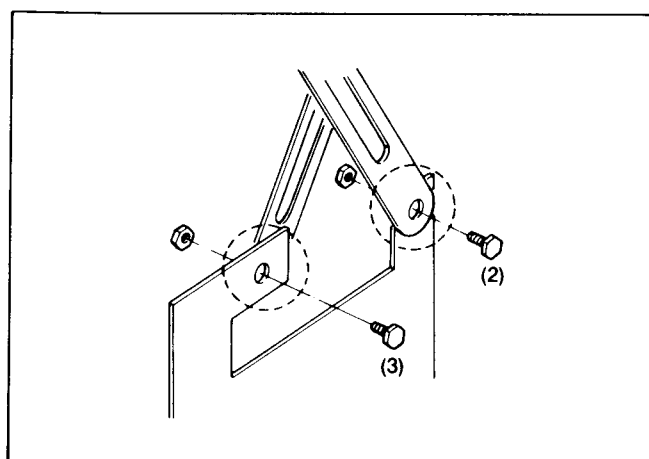

Fig. C6
2. Mount the Camera Holder Arm (B) to the Camera Holder (D) by screws (2) and (3) as shown in Fig.C6.